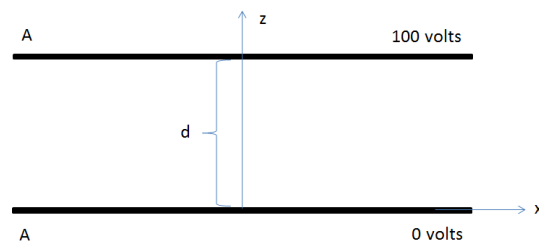
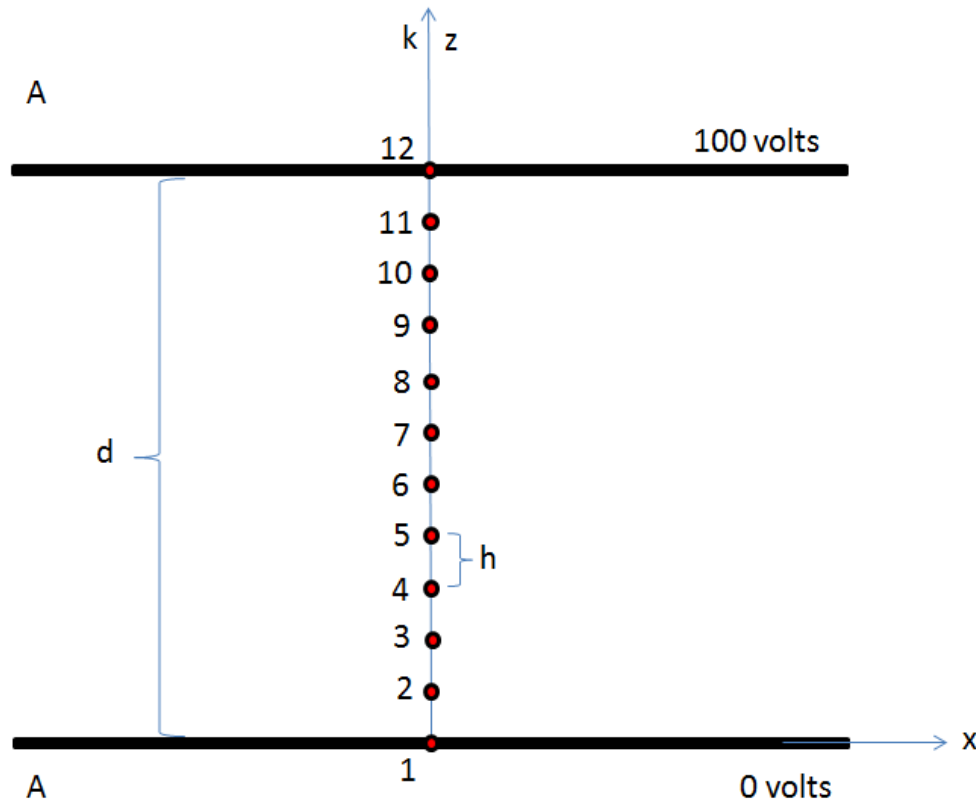

Figure Pre-1: Parallel plate capacitor geometry
Figure Pre-3: Parallel plate capacitor geometry for numerical technique
Consider the parallel plate capacitor shown in figure Pre-1. The lower plate is at 0 volts, and resides in the  $(x, y)$  plane. The upper plate is at 100 volts, also resides in the  $(x, y)$  plane and intersects the  $z$  axis a
**Question Pre-1.1:** Solve the differential equation (P-4) for the parallel plate capacitor of figure Pre-1. It is a second order differential equation so the general solution will have two constants. Determine these constants by making use of the know voltage values at  $z=0$  and  $z=d$ . Take  $d = 1$  mm. Plot several equipotential lines and from these draw in the electric field lines. What is the numerical value (magnitude and direction) of the electric field? **1 mark**
At this time, it is a good idea to review the course lecture slides related to the numerical solution to Poisson's and Laplace's equation. A review of the numerical technique is presented here for a geometry which results in a 1-D variation in the potential function. The parallel plate capacitor geometry shown in figure Pre-1 is such a geometry. The potential varies only the  $z$  direction and is constant in the  $(x, y)$  plane. Now, consider the parallel plate capacitor geometry redrawn in figure Pre-3. The  $z$  axis between the capacitor plates has been segmented and each point the  $z$  axis is assigned an index ( $i$ ). The spacing between grid points is uniform and equal to  $h$ . The capacitor plate separation is  $d$ .
- Divide the space into an equal number of grid points. Make certain that grid points are assigned to surfaces that are at fixed voltages (like the plates of the capacitors, see figure Pre-3)
**Question Pre-2.1:** For the parallel plate capacitor given in figure Pre-3, use the numerical technique to obtain the voltages at the grid points accurate to 1 decimal place. Make a good starting guess to the voltages. Take  $d = 1$  mm. **1 mark**